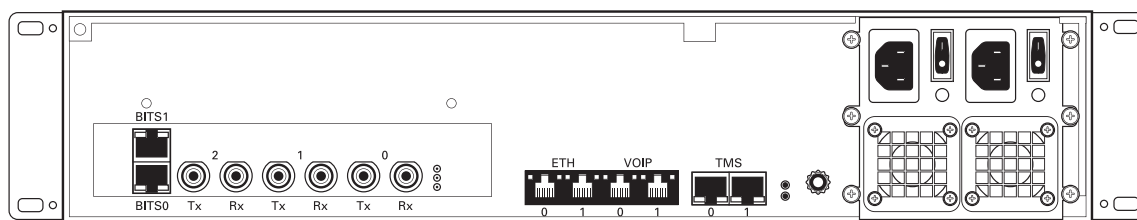

Figure 2.25 DS3 Interface to the PSTN
A TMP6400-DS3 with 3 sets of BNC connectors enables the connection to DS3 lines. See figure 2.25 on page 34.
1. Start with the Dual BNC port pair #0 (right-most) as shown in figure 2.25 on page 34. Connect one pair of BNC cables between this port and the DS3 line.